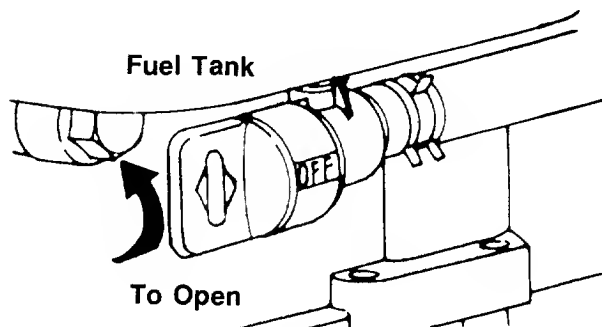
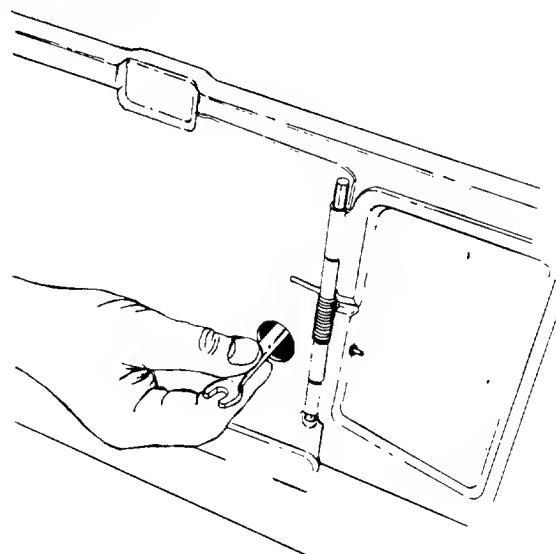

FIGURE 20.—Models 166R and 176R
FIGURE 21.—Model 176R Only
3. **Models 166R and 176R only:** The fuel shut-off valve is located beneath the fuel tank. On Model 176R, an access hole is provided in the catcher panel. The fuel shut-off valve should be in the open position. See figure 20. Open fuel shut-off valve using a wrench if it is closed. See figure 21.